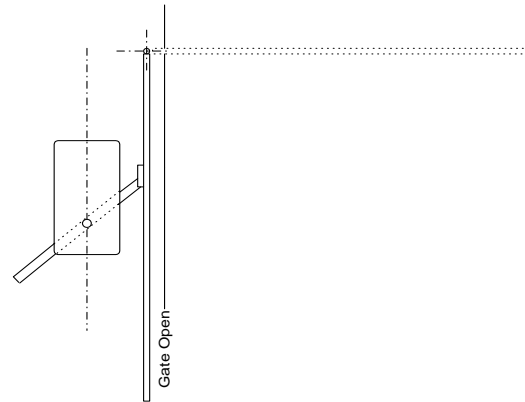

Figure 17
- Manually open the gate. The connecting arm should rotate beneath the drive arm and output shaft. When the gate is fully open, the drive arm should be directly over the connecting arm as shown in Figure 17.